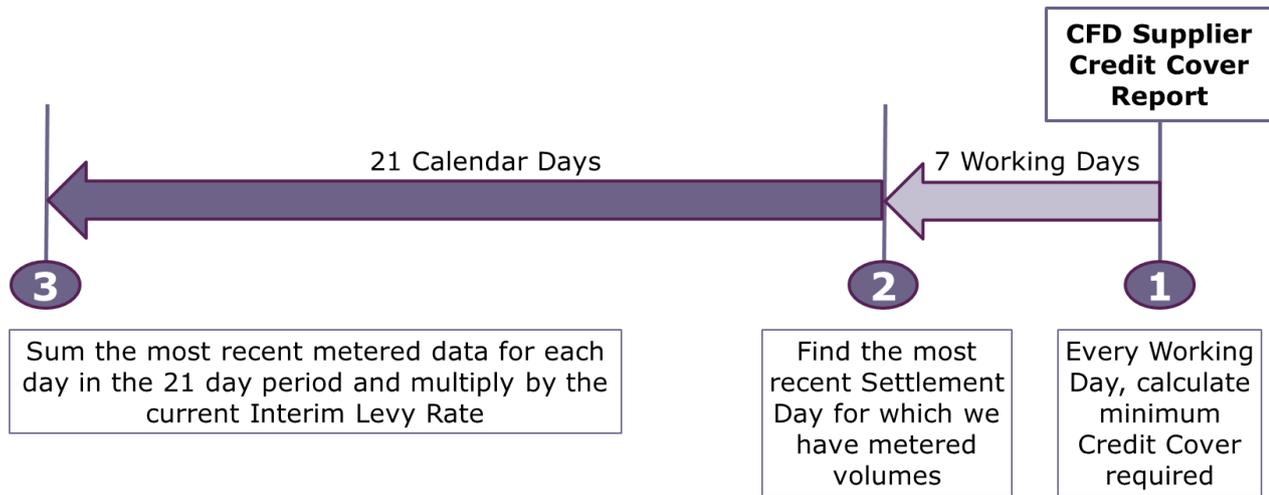

Figure 1: Metered Data Used to Calculate Minimum Credit Cover.
For any given reference period this will include metered data from both Interim Information (II) and Settlement Final (SF) settlement runs. **Figure 1** is a representation of the timescales involved with calculating the minimum Credit Cover requirement for a given day.